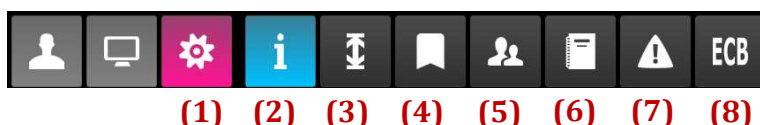

FIG. 44: SELECTING SERVICE MODE FROM MENU
In order to use the service mode, it has to be switched at first (not selected when the programme is started) - the Service mode key must pink coloured (see Fig. 44: Service mode selection from the menu - (1)). To the right of the mode switch keys, we can find the keys (see Fig. 44 - (2), (3), (4), (5), (6), (7)). These keys enable to switch to individual service mode views. Each view is described in a separate section.
The service menu view Device Diagnostics is entered via the key (2), see Fig. 44: Selecting service mode from the menu.
The service view Device Limits is entered by clicking the key (3), see Fig. 44.
The Markers service view is entered through the key (4), see Fig. 44: Selecting service mode from menu.